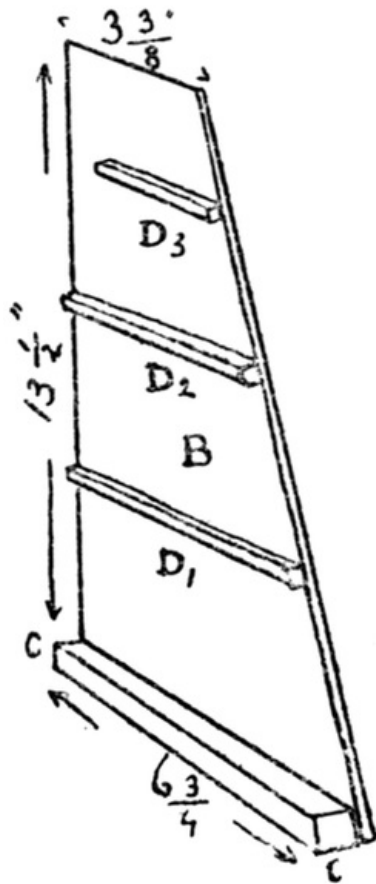

FIG. 323
**A Movable Siege Tower** (Plate XIII). Two pieces of wood (A and B in Fig. 322) are sawn to the shape and measurements of Fig. 323. To the broader ends of these, pieces of stripwood  $\frac{1}{2}$  inch by  $\frac{1}{2}$  inch are glued and nailed (C in Fig. 323), and other pieces, D,  $\frac{1}{4}$  inch by  $\frac{1}{4}$  inch (about three on each side), are fastened at equal distances apart. D3 and the corresponding piece on the other side must not extend to edge of B, but a space must be left of  $\frac{1}{2}$  inch for the posts of the drawbridge.